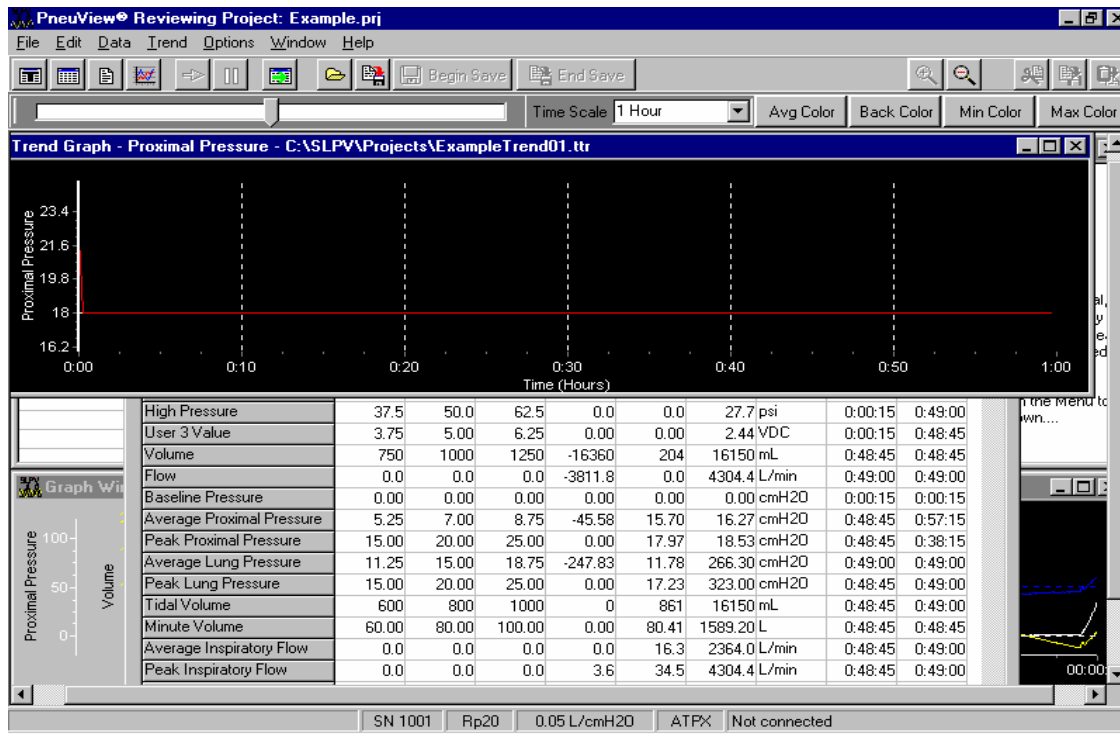

Figure 27 – Trend Graph Display
*Review Graphs* allow the user to view the entire graph (or graphs) of the trend test. Choose the graph(s) from the pull-down menu and select *Create Graph*. The graph will appear on top of the Test Results. A horizontal scroll bar at the top left of the graph allows the user to view the entire test. This is accessed by left clicking the mouse on the scale, and sliding the arrow in either direction. A time scale is located at the bottom of the graph that will correspond with the scroll bar. There is also a pull-down time scale menu located to the right of the scroll bar. This will change the time scale on the graph without using the scroll bar. Also, the color of the graphs and background can be adjusted by the user by using the *Avg. Color*, *Back Color*, *Min Color*, and *Max Color*. See figure 27 for a display of the Trend Graph.